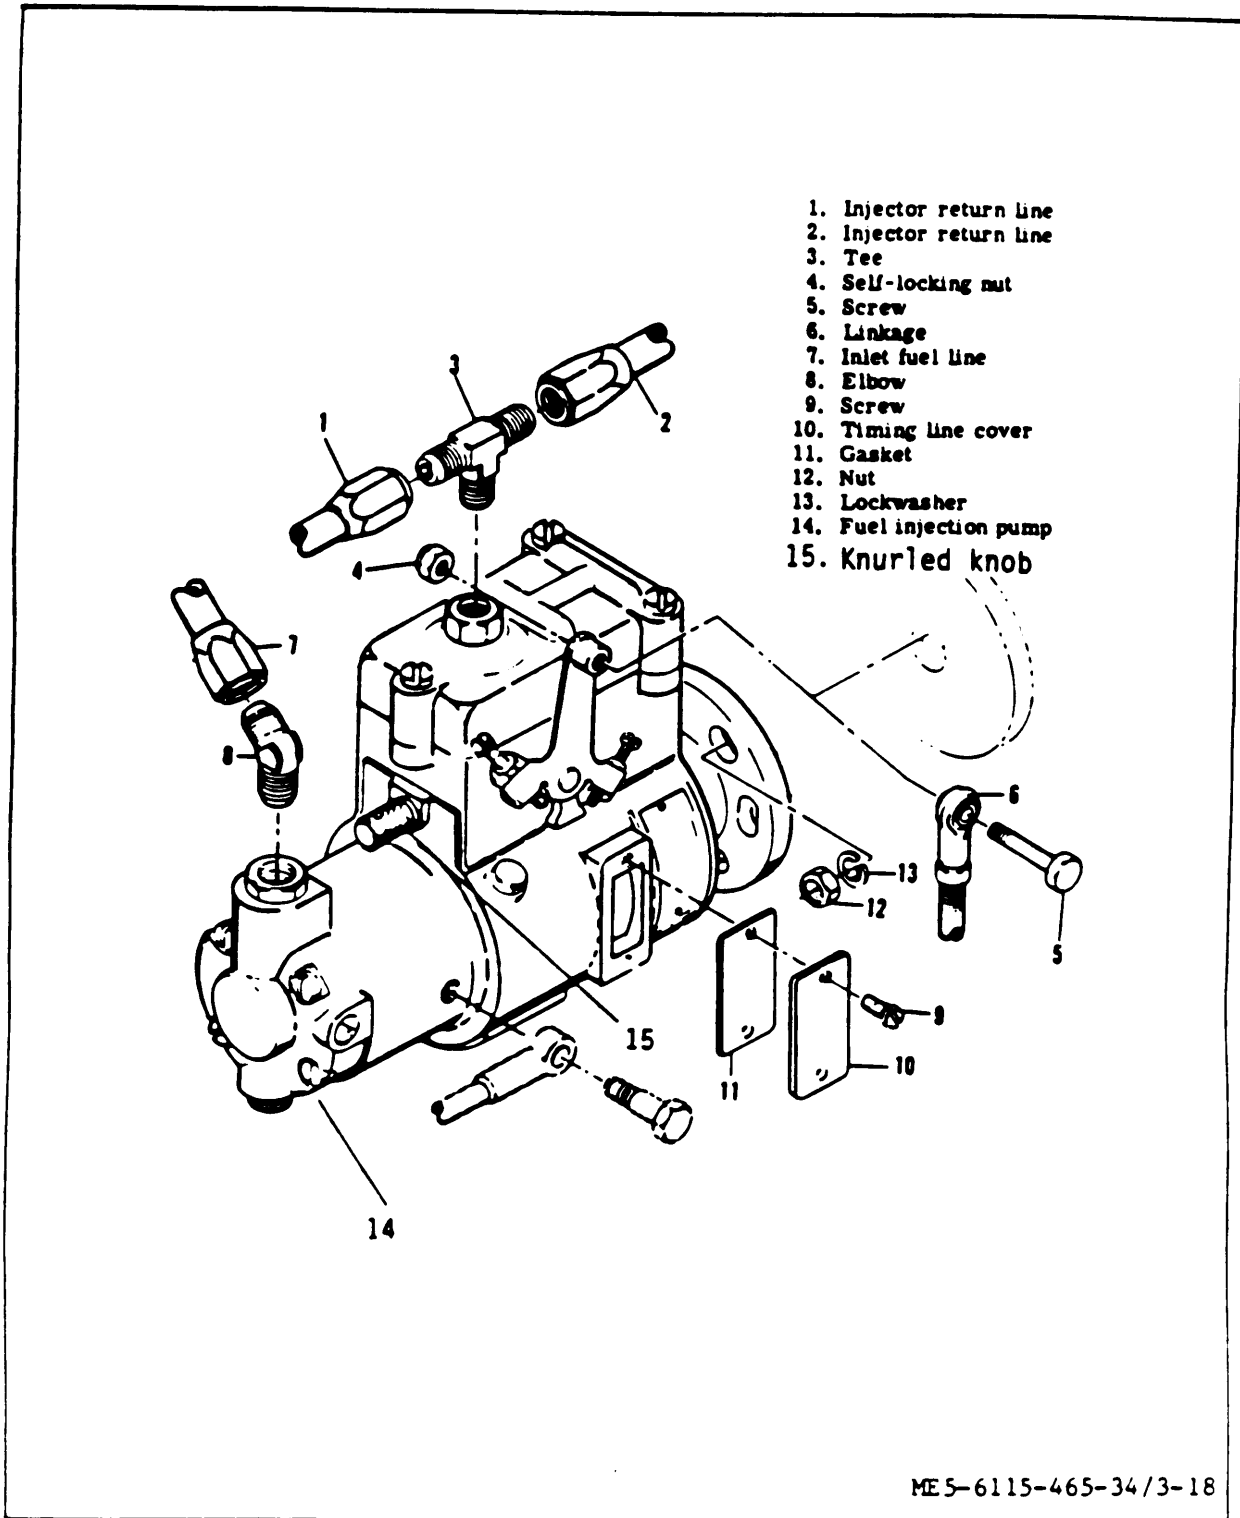

Figure 3-18. Fuel Injection Pump Assembly, Removal and Installation
(1) Refer to the Operator and Organizational Maintenance Manual and drain the day tank assembly.
(2) Disconnect injector return lines (1 and 2, figure 3-18) and remove tee (3).
(3) On precise sets, remove self-locking nut (4) and screw (5) to disconnect hydraulic actuator linkage (6). On utility sets disconnect the manual speed control.